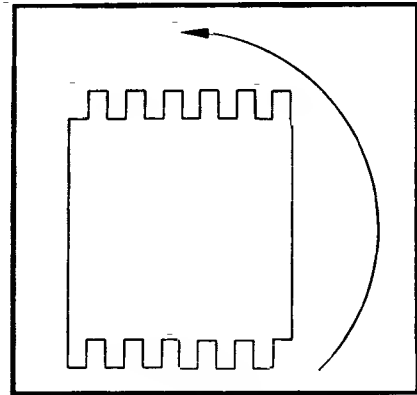

Fig. 41
9. Carefully rout box joints and when completed, loosen front clamp, rotate material as shown in Fig. 41.